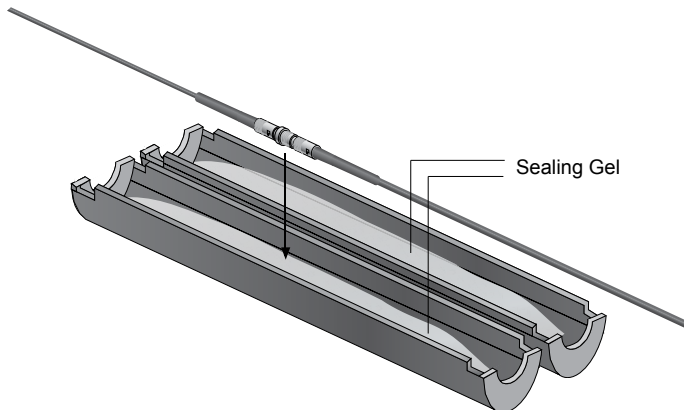

Figure B-2: ST Connectors in an ENKT-661 Encapsulation Kit
Whenever two fiber optic cable segments are joined together, the connected ends should always be enclosed in a protective capsule to keep the connection point clean and dry. Fiber SenSys offers the ENKT-661 Encapsulation Kit (Figure B-2) for this purpose. This encapsulation kit contains sealing gel, eliminating the need to mix and pour sealing compound as required by most other encapsulation kits. In addition, the sealing gel does not harden, allowing users to remove the connection joint at a later point in time.
2. Gently lay the cable connection joint in the sealing gel in one of the capsule “clamshell” halves (Figure B-2). The joint does not have to be pressed down into the sealing gel